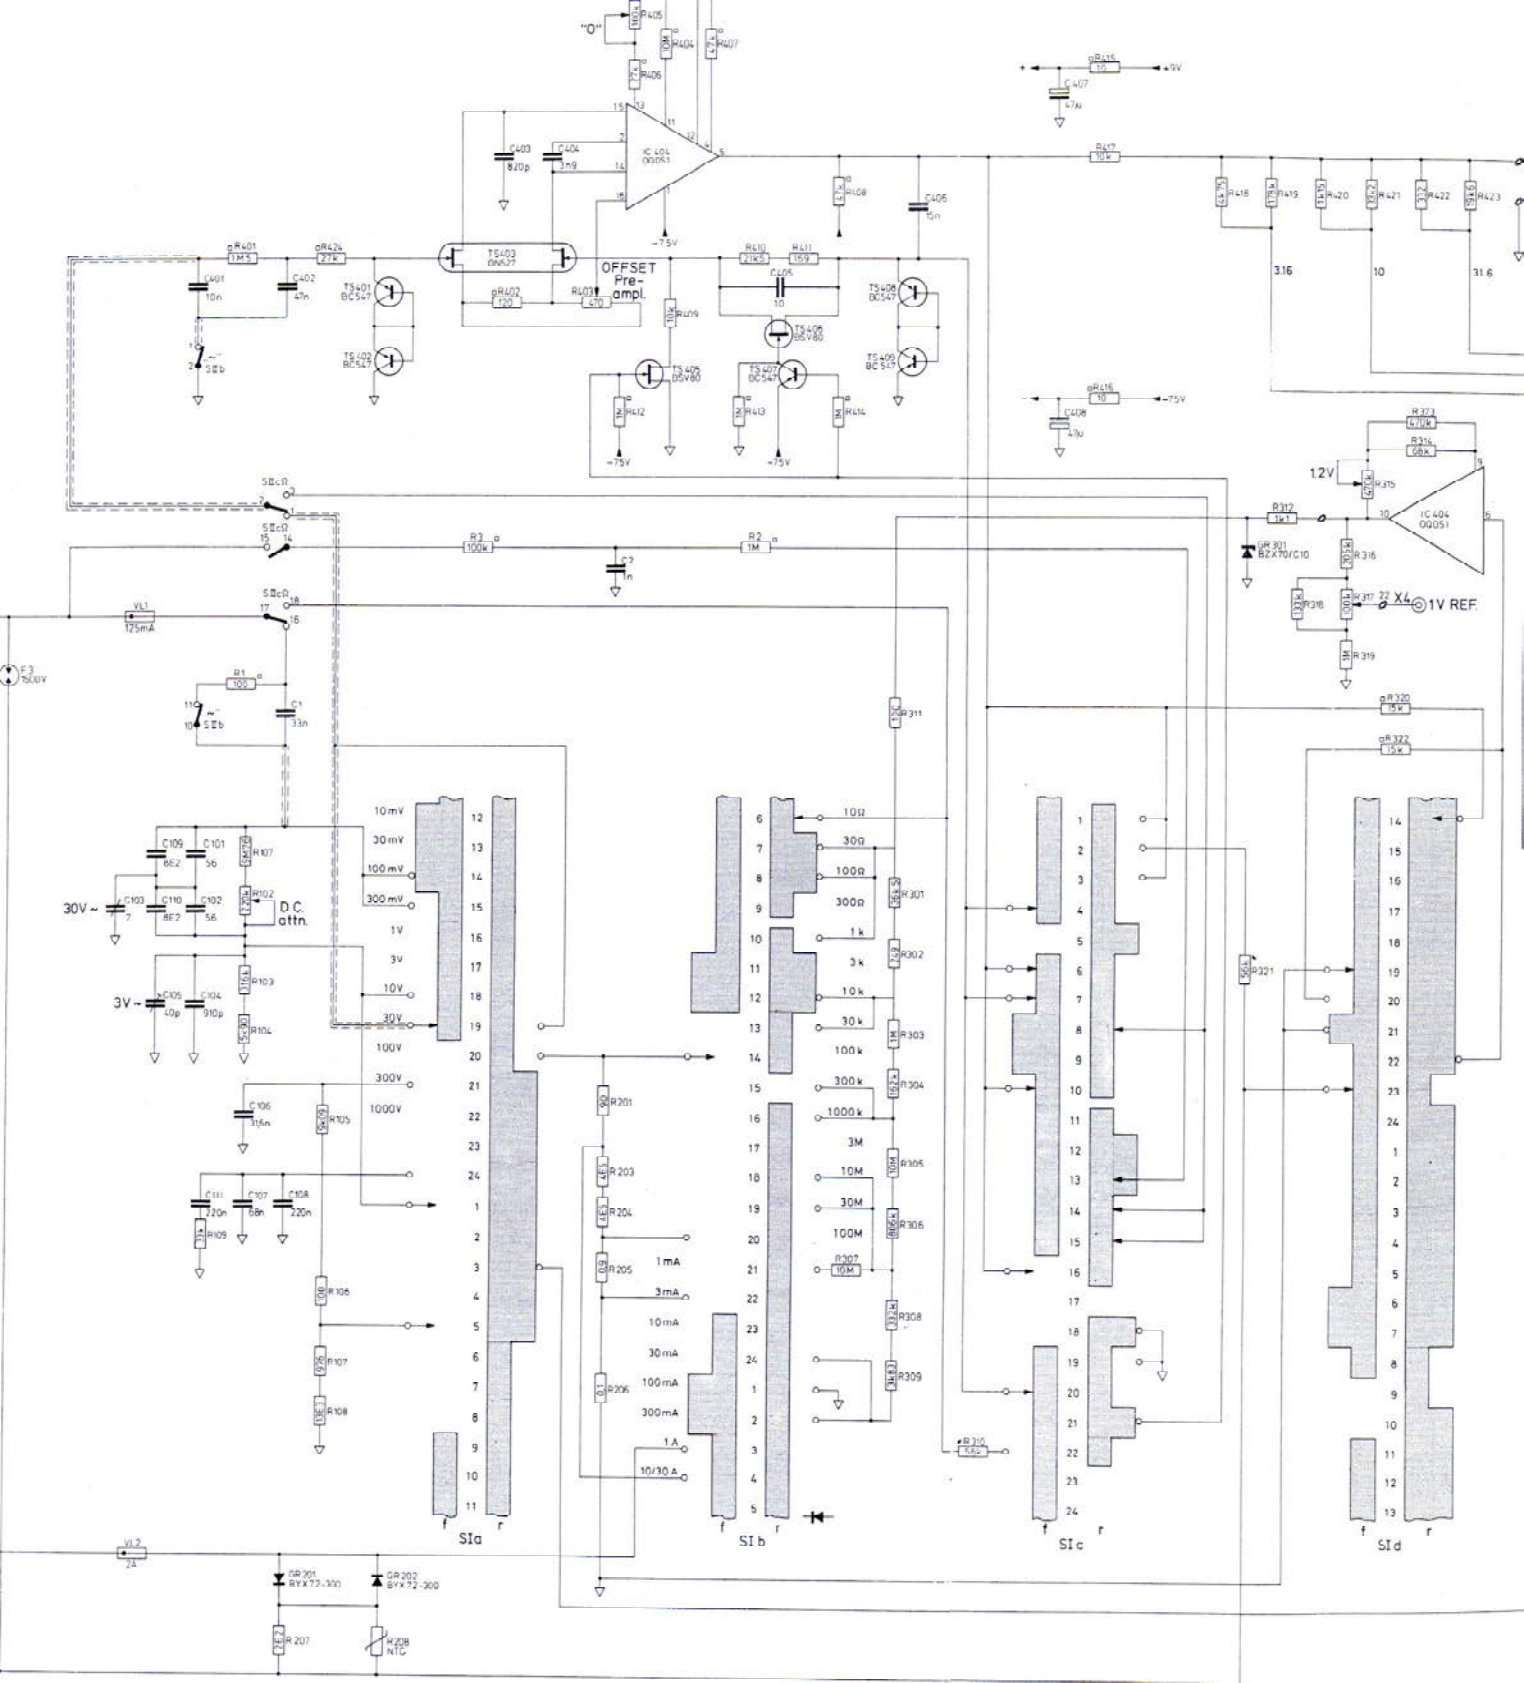

Fig. 32 Circuit diagram PM 2504
- Place the figures 1 and 13 on the corresponding figures of range selector S1 in the circuit diagram (Fig. 32). Range selector S1 is switched in position 10 mV.